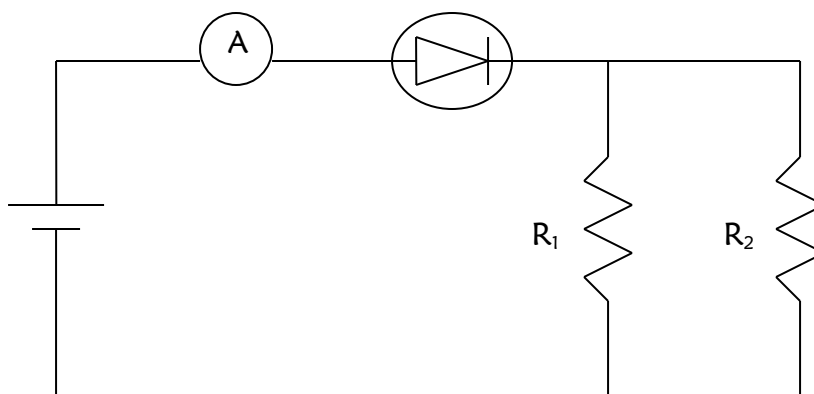

Figure 3. Setup for the first parallel circuit.
14. Add an ammeter and LED in series with the battery. Look at Figure 3 for help.